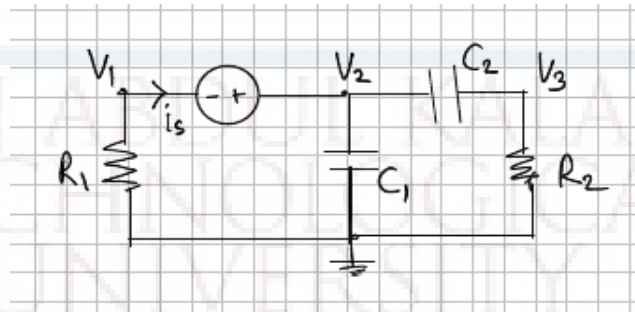

Fig. 3.
15. Write the MNA equations for the circuit shown in Fig. 3 below: Apply Trapezoidal method on the resulting equations to obtain the corresponding numerical equations.